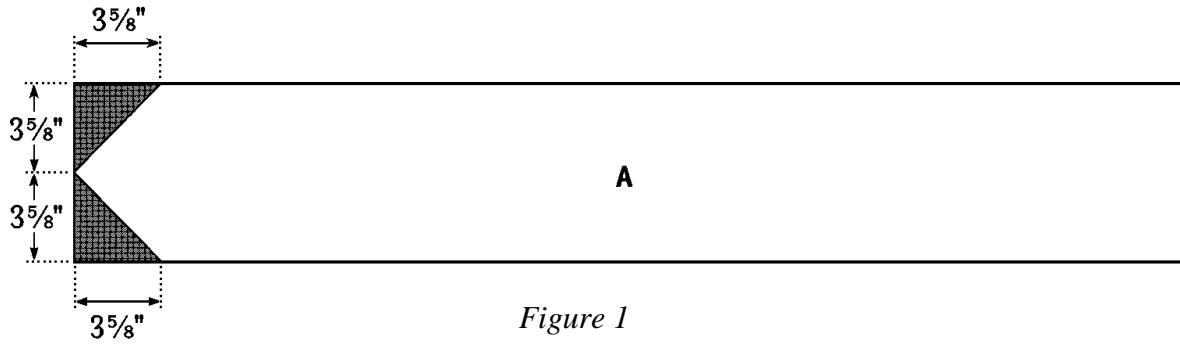

Figure 1
1. Cut two Back/Front (A) from 1 x 8 pine, each measuring 46-1/4 inches.
2. Referring to *Figure 1*, remove the shaded area on one end of a Back/Front (A).
3. Repeat Step 2 to remove the shaded area on one end of the remaining Back/Front (A).
4. Cut two Sides (B) from 1 x 8 pine, each measuring 43-1/8 inches.